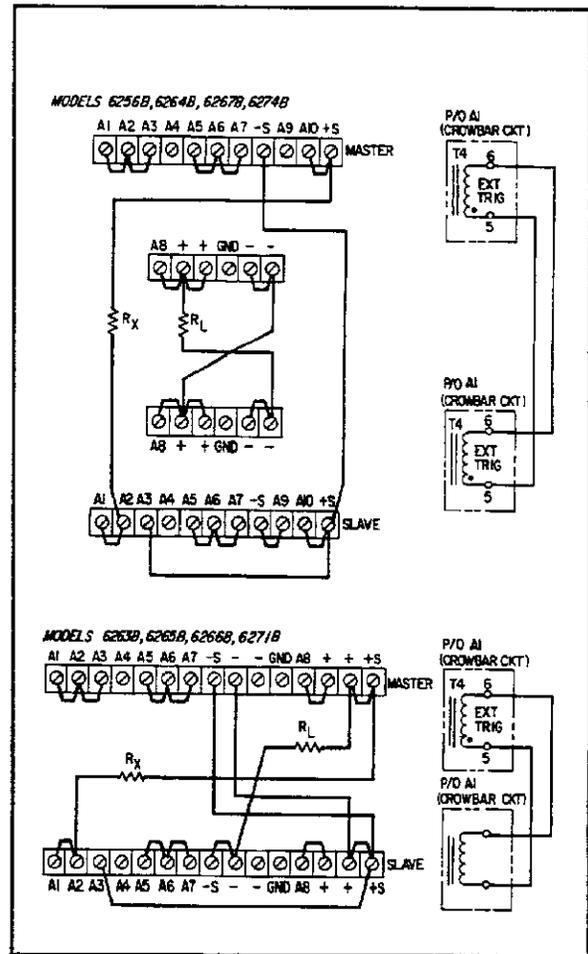

Figure 3-10. Auto-Series Operation of Two Units
**3-50** Figures 3-10 and 3-11 show the rear panel and circuit board interconnections required to operate two or three supplies in the auto-series mode. This mode of operation allows two or three series-connected supplies to be simultaneously programmed by the voltage and current controls of a master supply. The master supply must always be the one at the positive end of the series combination. The output voltage of each slave supply varies in direct proportion to that of the master and the ratio of each slave's output voltage to the master's is established by the settings of the slave supplies' voltage controls. The resulting combination of two or three supplies behaves as if it were a single constant-voltage/constant-current supply. The supply with the lowest current rating limits the maximum output current of the combination. Any of the supplies included in this manual can be used as an auto-series slave, and any well-regulated variable output supply can be used as the master.
**3-56 Overvoltage Protection in Auto-Series.** The interconnections shown in Figures 3-10 and 3-11 between transformer T4 in the master and T4 in the slave(s) must be made to permit the overvoltage crowbar in any one of the interconnected supplies to fire the SCRs in all of them if an overvoltage condition occurs. The circuit board pads to be interconnected are marked "EXT TRIG" and their locations are indicated on the component location diagrams in Section VII. Be sure to connect them with correct polarity, terminal 5 to 5 and 6 to 6. Set the overvoltage potentiometer in each supply so that it trips at a point slightly above the voltage that supply will contribute.
**3-65** In order to have all supplies in an auto-tracking combination crowbar simultaneously if any of them has an overvoltage condition, parallel their crowbar circuits as shown in Figure 3-10 or 3-11 and described in paragraph 3-56.